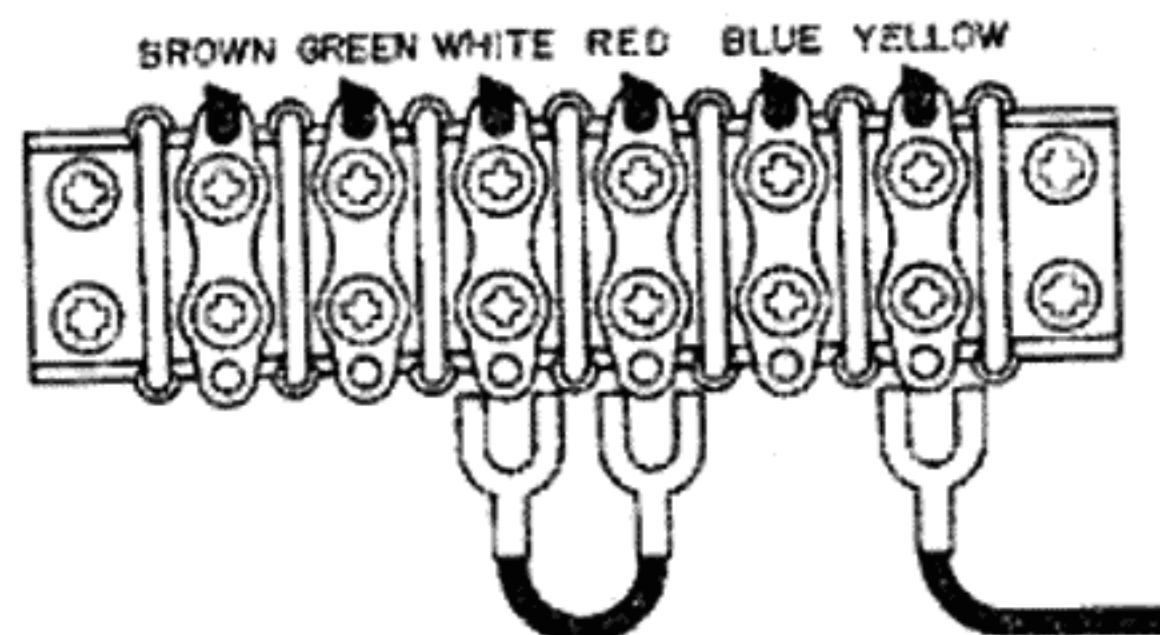

Figure 2. Voltage Conversion Chart
- (3) Change the jumper wires as illustrated in Fig. 2 for the required AC voltage and replace the fuse as instructed.